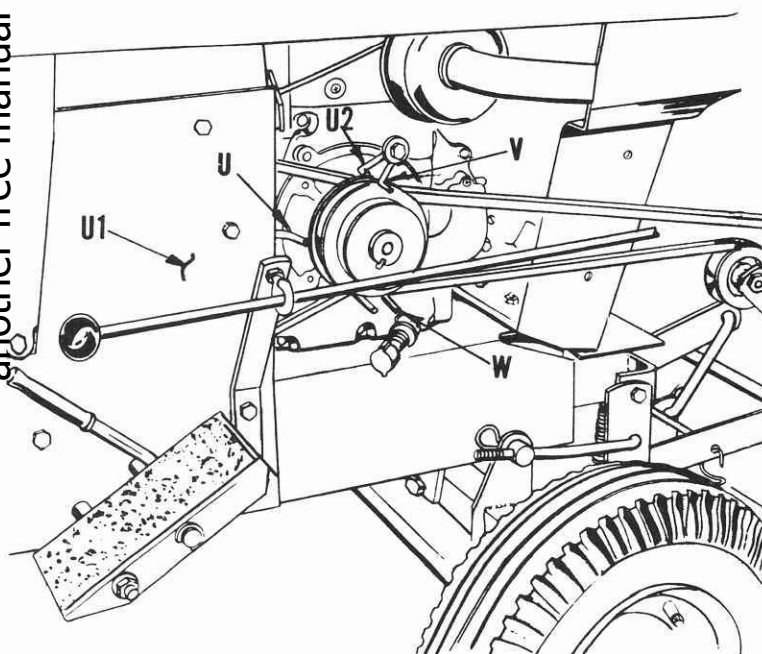

FIG. 10
16. Refer to Fig. 10. Assemble offset belt guide (U), to cover R.H. (U-1), as shown with  $\frac{5}{16}$  -  $18 \times \frac{3}{4}$  hex bolt washer and keps nut. Adjust belt guide so that it clears belt by  $\frac{1}{8}$ " when belt is tight (clutch engaged).
17. Refer to Fig. 10. Remove short belt guide (U-2), and assemble shorter of two remaining belt guides (V) over short belt guide with a  $\frac{3}{8} \times \frac{1}{4}$  hex bolt. NOTE: The heavy flat washer removed, must be next to head of new bolt and a  $\frac{13}{32} \times \frac{13}{16}$  Ga. washer is to be placed between belt guides. The  $\frac{3}{8} \times \frac{1}{4}$  hex bolt and washer will be found in plastic bag. Raise Rotary Snow Plow to transport position, and adjust upper belt guide to clear Rotary Snow Plow drive belt by  $\frac{1}{8}$ " when belt is tight (clutch engaged). Tighten bolt securely.
18. Refer to Fig. 10. Remove bolt holding belt guide under engine pulley. Assemble remaining belt guide (W), with original belt guide in same manner as the top belt guides step 17. The  $\frac{3}{8} \times \frac{1}{4}$  hex bolt and washer will be found in plastic bag. Lower Rotary Snow Plow to ground or floor level and adjust lower belt guides to clear belts by  $\frac{1}{8}$ " when belts are tight.